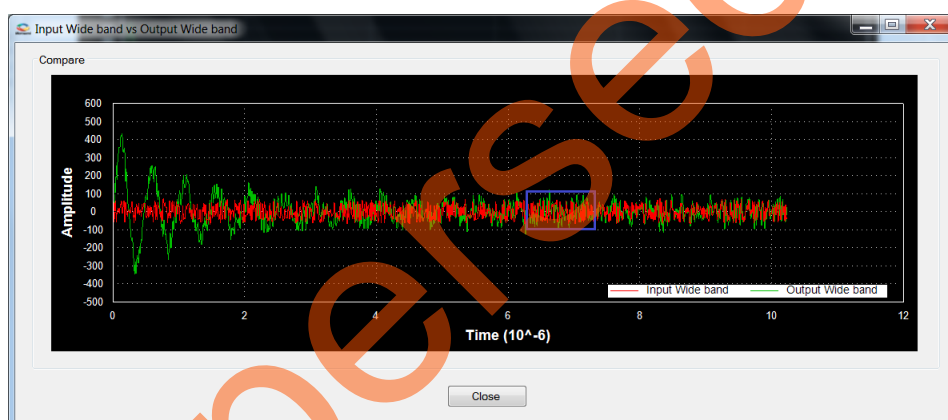

Figure 24 • Input Wide Band vs Output Wide Band
9. The plot can be zoomed in for comparison, refer to Figure 24.